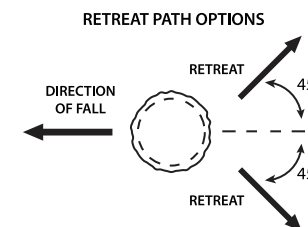

Fig. 5
- Before beginning your cut, you should plan and clear a retreat path for emergency situations. The retreat path should extend back and diagonally to the rear of the expected line of fall. (Fig.5)